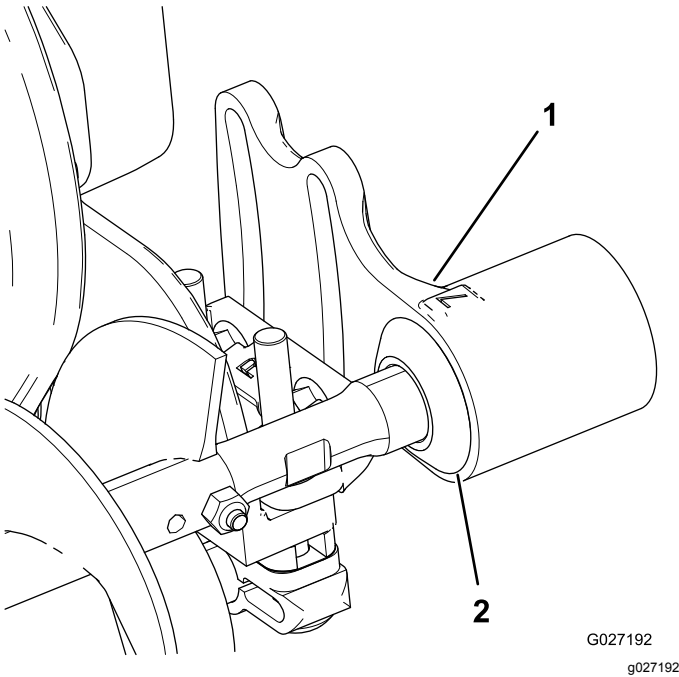

Figure 7
1. Slide the excluder seal outward until the lip seals are in light contact with each bearing housing (Figure 7).